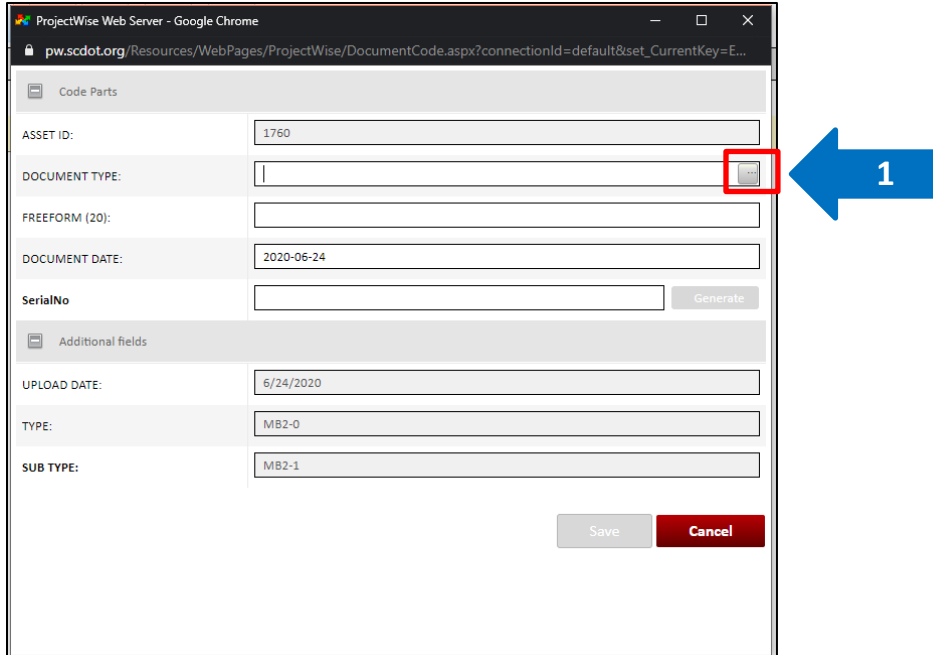

Figure 3.18. Document Code screen. Document Type dropdown list will be visible when the button shown is selected.
1. Select the button at the right end of the “Document Type” field (Figure 3.18).